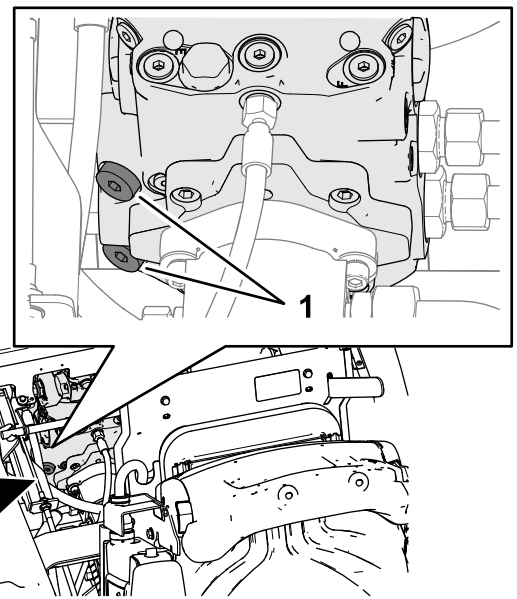

Figure 38
3. Use an 8 mm (5/16 inch) hex key to rotate the 2 socket head plugs for the transmission pump-relief valves clockwise 3 turns (Figure 38).